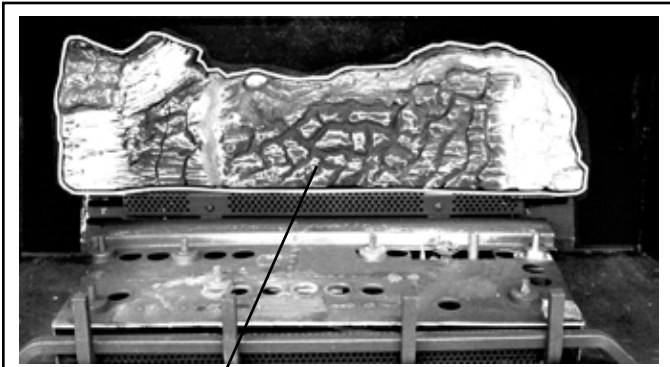

Figure 22 Rear Log
1. Place the rear log onto the two corresponding locating pins at the back of the firebox as shown in **Figure 22**.